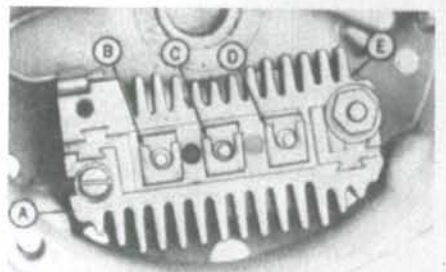

Fig. 153—Bridge rectifier test points. Refer to text.
The rectifier bridge (Fig. 153) has a grounded heat sink (A) and an insulated heat sink (E) that is connected to the output terminal. Connect ohmmeter to the grounded heat sink (A) and to the flat metal strip (B). Then reverse the ohmmeter lead connections. If both readings are the same, the rectifier bridge is defective. Repeat this test between A and C, A and D, B and E, C and E, and D and E. Capacitor (11—Fig. 149) connects to the rectifier bridge and